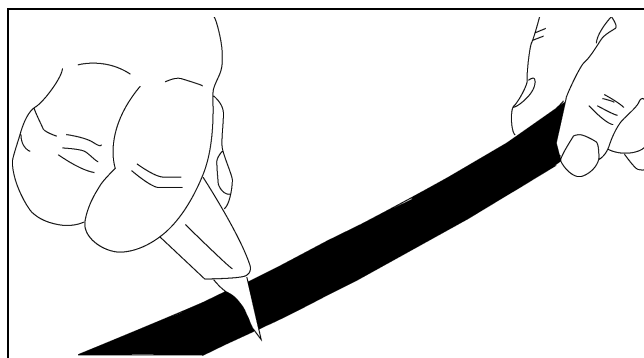

Figure 5A
- a. Cut hose to length. (See Figure 5A.)